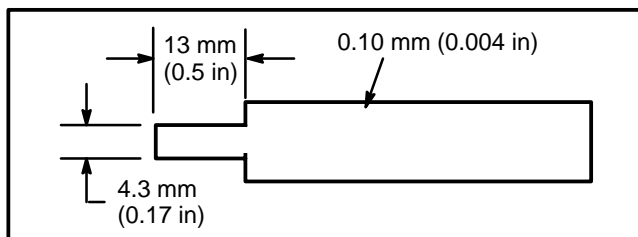
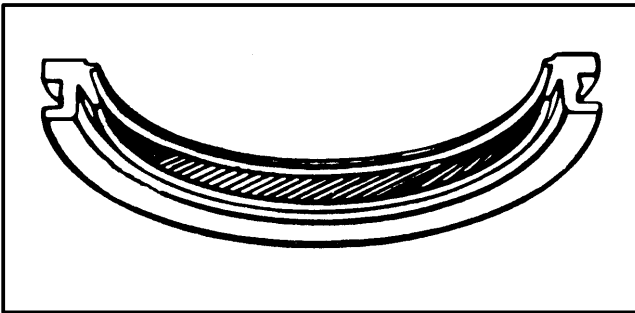

FIGURE 35. INSTALLATION TOOL FOR REAR OIL SEAL
FIGURE 39. OIL SEAL HALF, REAR MAIN BEARING
This procedure requires careful work so that the oil seal is not damaged during installation. The seal bead in the channel on the outside diameter of the oil seal must be protected during installation. An oil seal installation tool can be made from a piece of 0.10 mm (0.004 in) shim stock. See FIGURE 35.
6. Put the tip of the tool shown in FIGURE 35. in position between the crankshaft and the cavity for the oil seal in the engine block. Put the oil seal between the engine block and the tip of the tool so that the bead on the oil seal is against the tip of the tool. Make sure the lip of the oil seal is toward the fan end of the engine. See FIGURE 39.